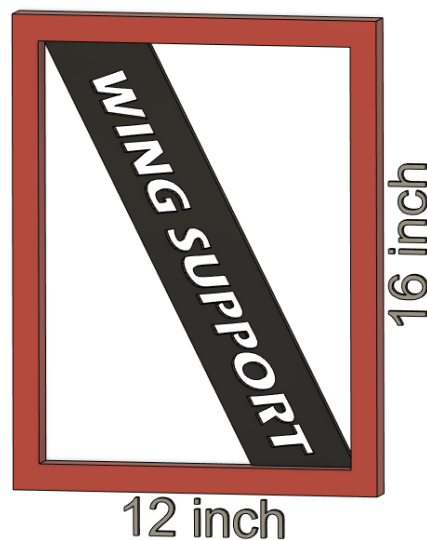

Figure 28
- C. The size of each standoff and endplate may not exceed 12x16 inches dimensionally in size per piece. Refer to Figure 28.